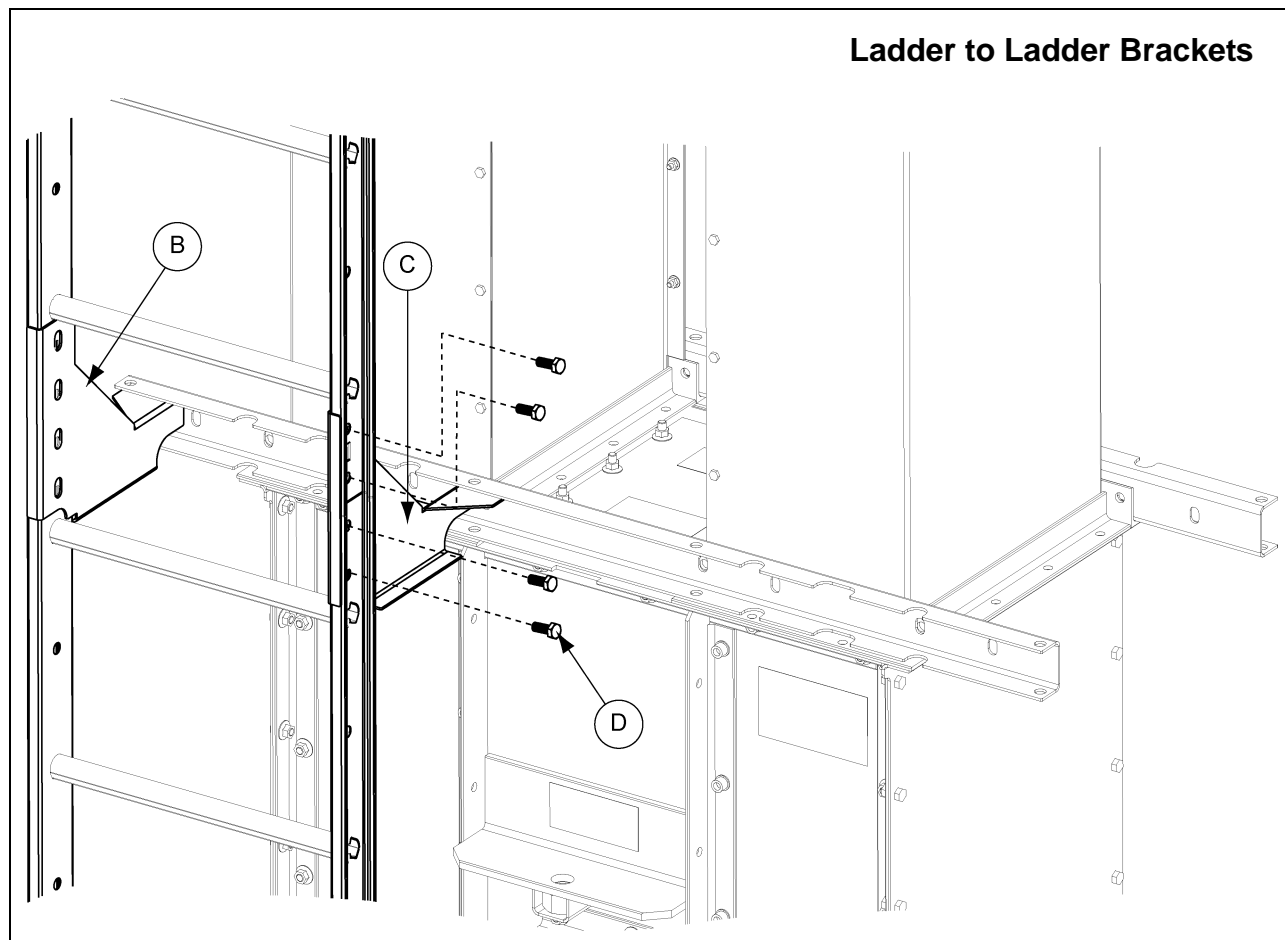

Figure 6H
3. Attach the next ladder section to the ladder brackets using 1/2" x 1" hex bolts through the top set of holes. (See Figure 6H.)